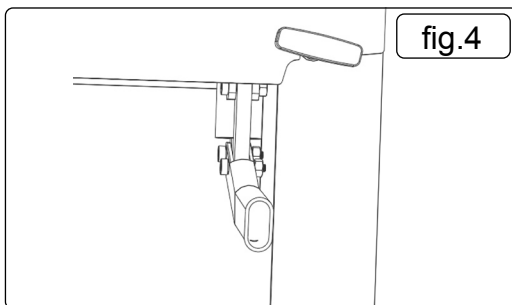

fig.4
4.2.2. Fig.4: Assemble part 44 with parts 42 & 45.